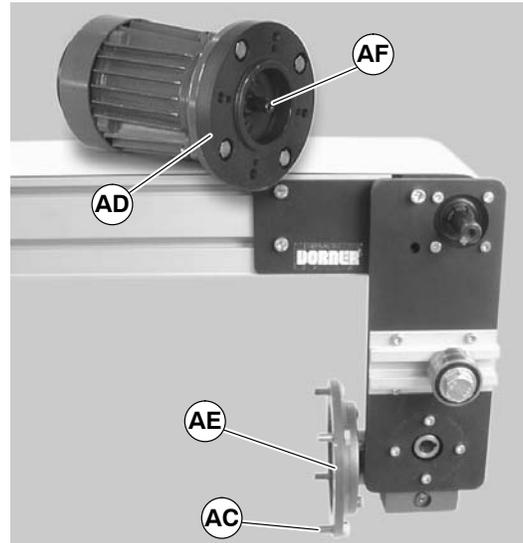

Figure 25
4. Remove four (4) screws (AC of Figure 25). Detach motor (AD) from gear reducer (AE). Retain motor output shaft key (AF).